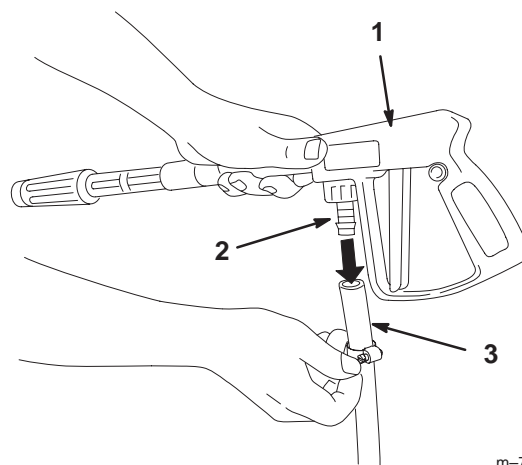

Figure 30
2. Connect the free end of the long hose to the fitting on the gun (Fig. 30).